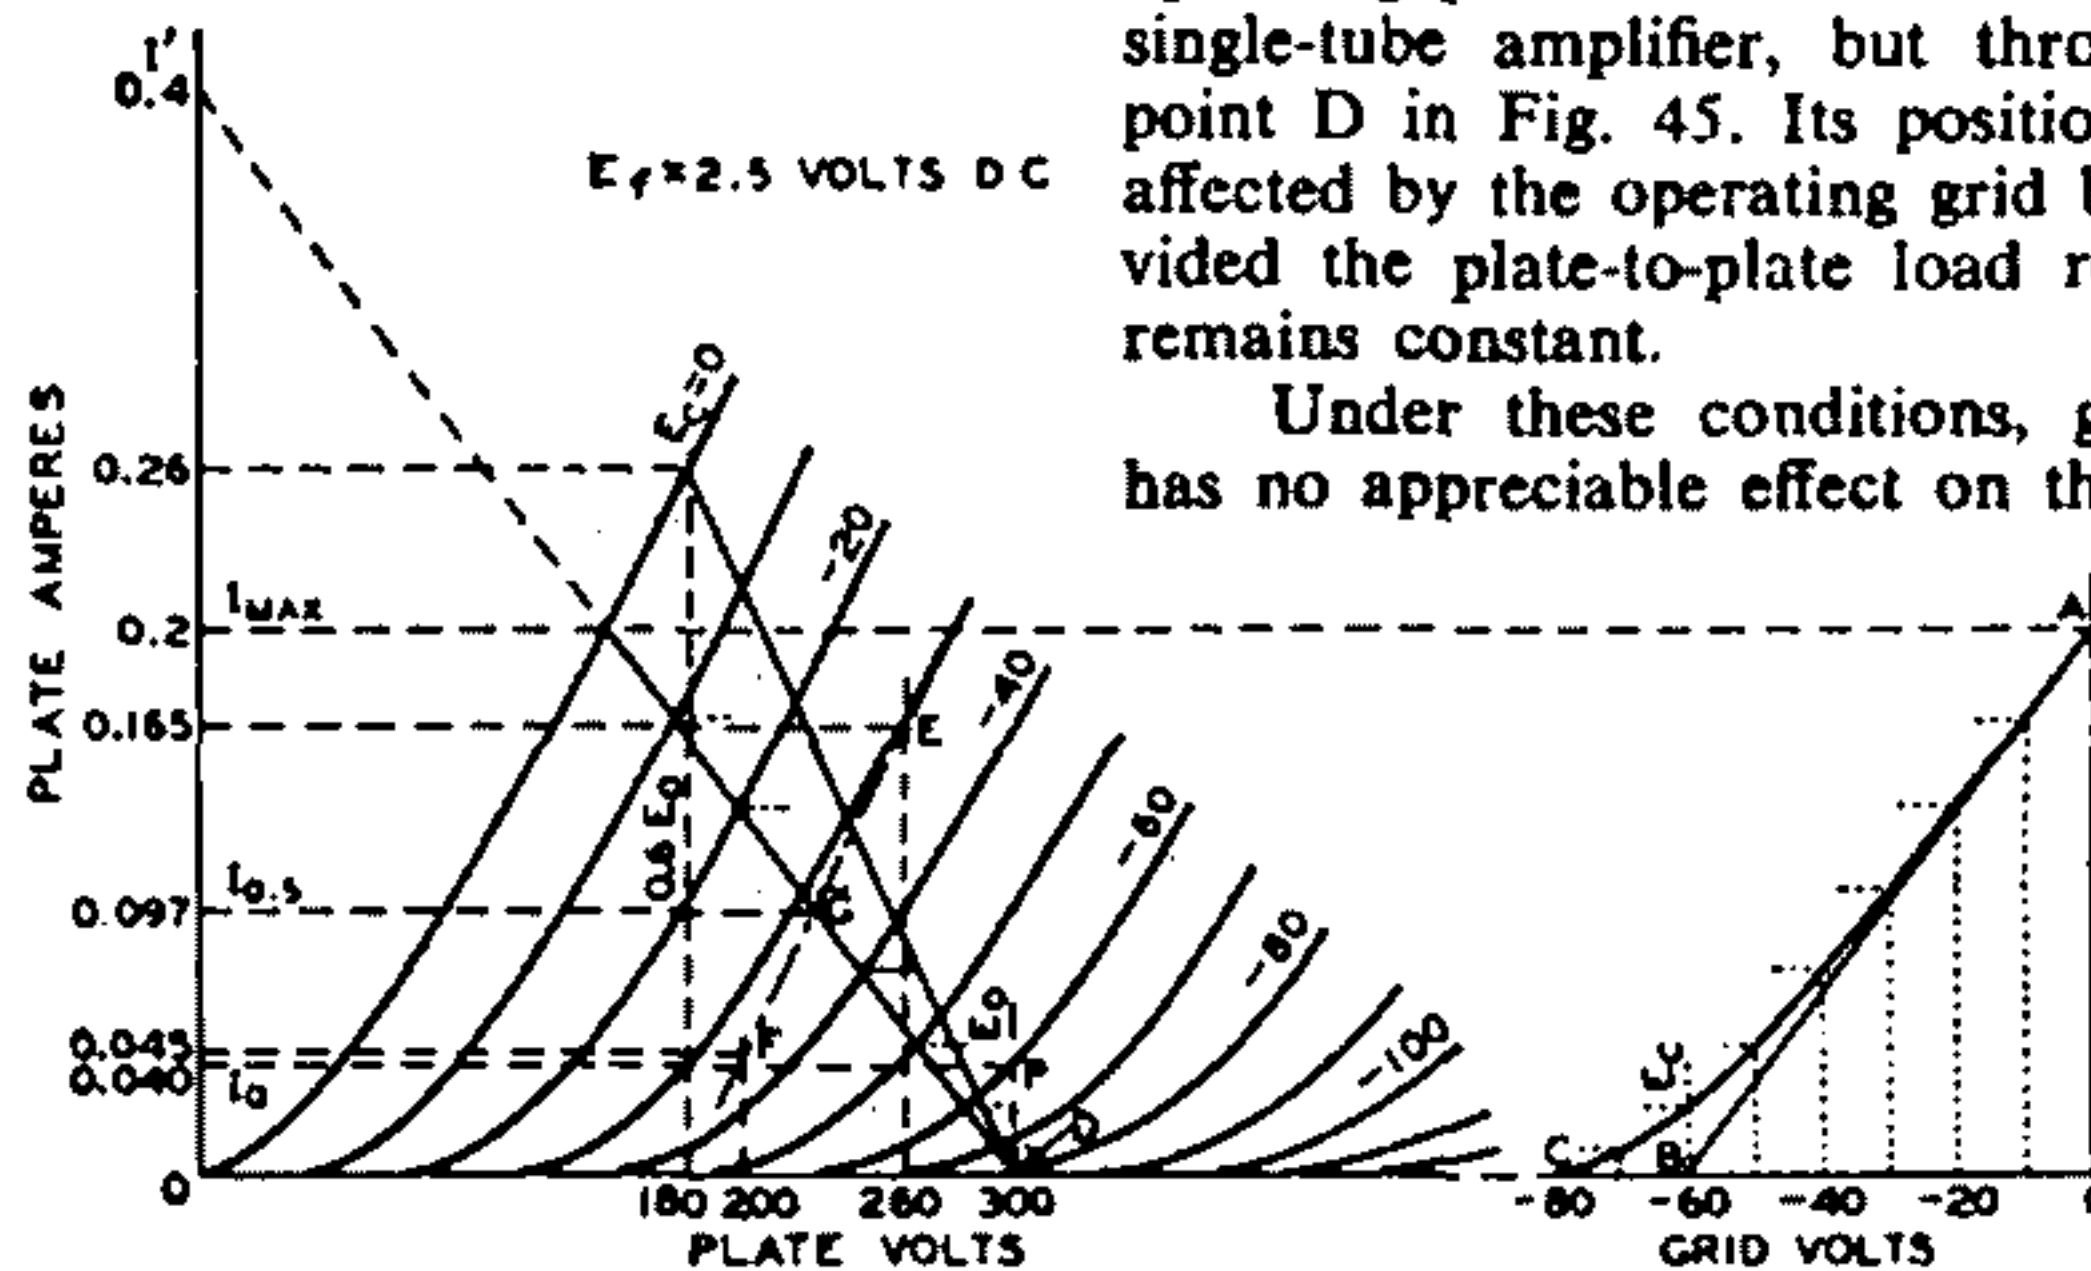

Fig. 45—Graphic calculations for class AB₁ amplifier using a power triode. Fig. 46—Instantaneous curve for class AB₁ amplifier.
In class AB₁ push-pull amplifier service using triodes, the operating conditions may be determined graphically by means of the plate family if E_c , the desired operating plate voltage, is given. In this service, the dynamic load line does not pass through the operating point P as in the case of the single-tube amplifier, but through the point D in Fig. 45. Its position is not affected by the operating grid bias provided the plate-to-plate load resistance remains constant.
In general, for any load line through point D, Fig. 45, the plate-to-plate load resistance in ohms of a push-pull amplifier is $R_{pp} = 4E_o/I'$, where I' is the plate-current value in amperes at which the load line as projected intersects the plate-current axis, and E_o is in volts. This formula is another form of the one given under push-pull class A amplifiers, $R_{pp} = 4(E_o - 0.6E_o)/I_{max}$, but is more general. Power output $= (I_{max}/\sqrt{2})^2 \times R_{pp}/4$, where I_{max} is the peak plate current at zero grid volts for the load chosen. This formula simplified is $(I_{max})^2 \times R_{pp}/8$. The maximum-signal average plate current is $2I_{max}/\pi$ or $0.636 I_{max}$; the maximum-signal average power input is $0.636 I_{max} \times E_o$.
Example: Fig. 45 illustrates the application of this method to a pair of power triodes operated at $E_o = 300$ volts. Each tube has a plate-dissipation rating of 15 watts. The method is to
the plate family and the load line. Fig. 46 is a curve of instantaneous values of plate current and dc grid-bias voltages taken from Fig. 45. Values of grid bias are read from each of the grid-bias curves of Fig. 45 along the load line and are transferred to Fig. 46 to produce the curved line from A to C. A tangent to this curve, starting at A, is drawn to intersect the grid-voltage abscissa. The point of intersection, B, is the operating grid bias for fixed-bias operation. In the example, the bias is -60 volts. Refer back to the plate family at the operating conditions of plate volts = 300 and grid bias = -60 volts; the zero-signal plate current per tube is seen to be 0.04 ampere.
As in the case of the push-pull class A amplifier, the second-harmonic distortion in a class AB₁ amplifier using triodes is very small and is largely canceled by virtue of the push-pull connection. Third-harmonic distortion, however, which may be larger than permissible, can be found by means of composite characteristic curves. A complete family of curves can be plotted, but for the present purpose only the one corresponding to a grid bias of one-half the peak grid-voltage swing is needed. In the example, the peak grid voltage per tube is 60 volts, and the half value is 30 volts. The composite curve, since it is nearly a straight line, can be constructed with only two points (see Fig. 45). These two points are obtained from deviations above and below the operating grid and plate voltages.
These steps provide points at 260 volts and 0.165 ampere (E), and at 200 volts and 0.045 ampere (F). A straight line through these points is the composite curve for a bias of -30 volts, shown as a long-short dash line in Fig. 45. At the intersection of the composite curve and the load line, G, the instantaneous composite plate current at the point of one-half the peak signal swing is determined. This current value, designated $I_{0.5}$ and the peak plate current, I_{max} , are used in the following formula to find the peak value of the third-harmonic component of plate current.